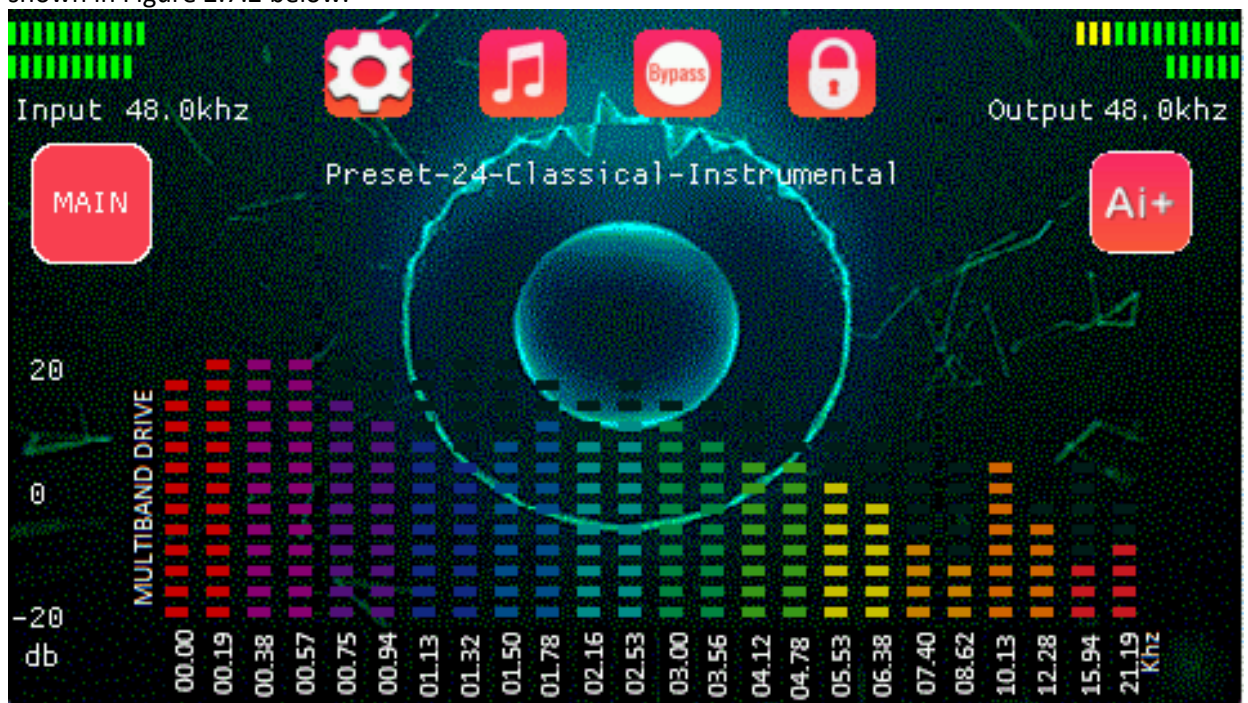

Figure 2.7.2: Main Screen of the Selected Path
- Select the path (channel) to be operated. The Main Screen of the selected path then opens, as shown in Figure 2.7.2 below.
Main Screen Display (Figure 2.7.2) labels the following items: